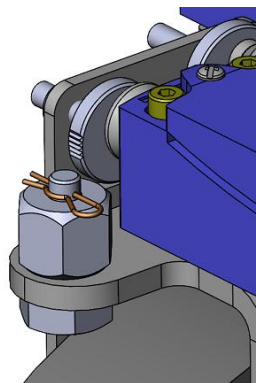

Figure 7.5
4. Insert the service nut on the parking screw in place of the manual release nut, and fit the safety beta pin (Figure 7.5):